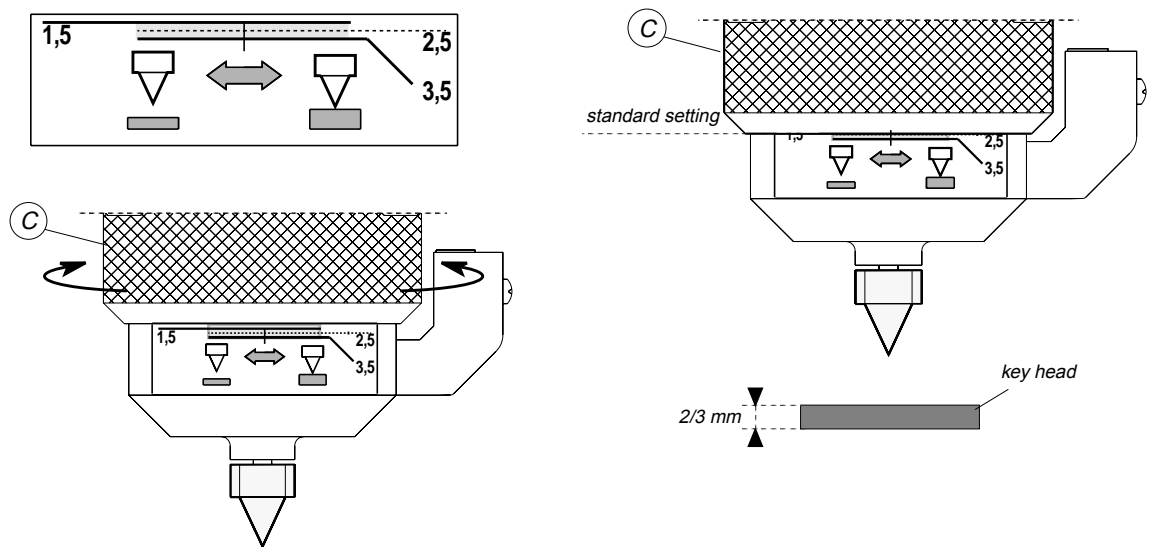

Fig. 18
The regulation plate (fig. 18) has 3 positions suitable for keys with a thickness of 1,5 mm, 2,5 mm and 3,5 mm.
When the ring (C) is placed in the position shown by the dotted line (2,5 mm) the machine is set on a standard distance ideal for marking key thickness of between 2 and 3 mm (fig. 18).